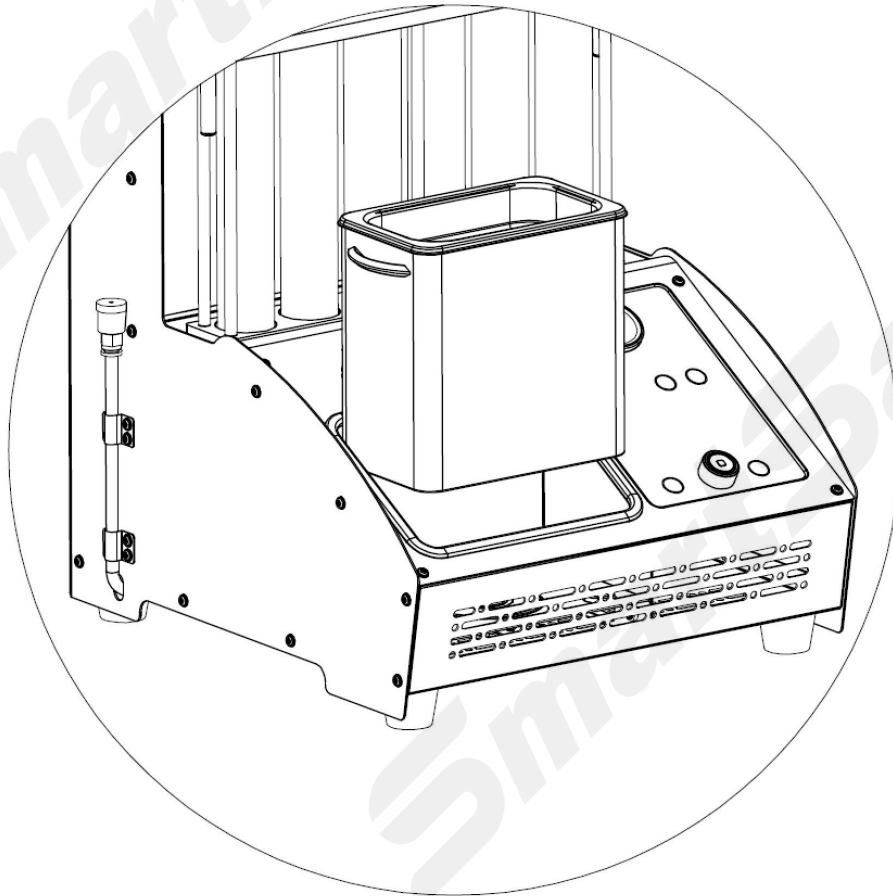

Figure 4.2
- Take out the ultrasonic cleaning pool and pouring out all cleaning fluid completely shown in Figure 4.2, and wipe the ultrasonic cleaning unit with a soft dry cloth.